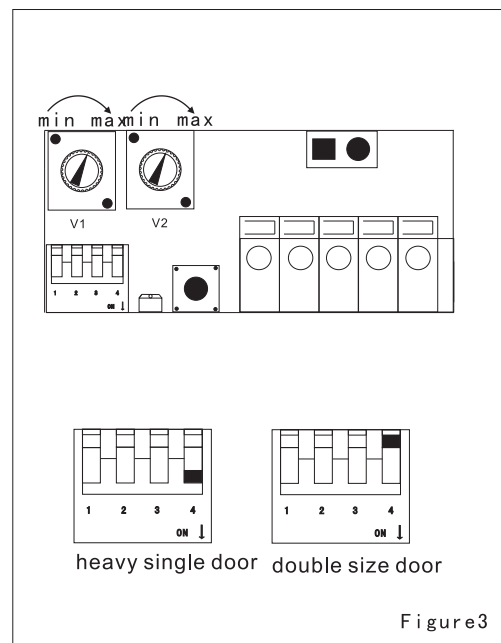

Figure3
5. SETTING OPERATING FORCE AND SAFETY REVERSE FORCE (see Figure3)